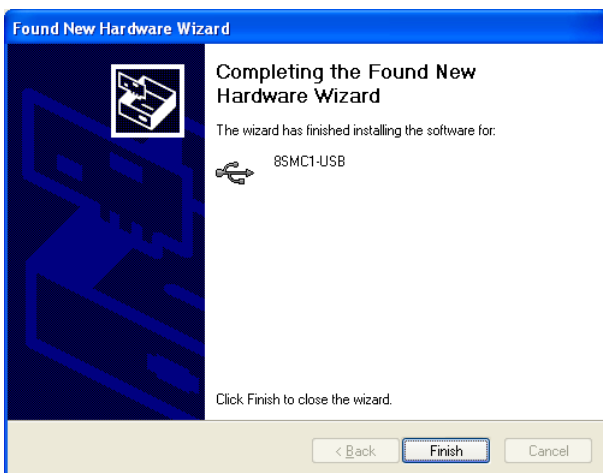

Figure 9. Hardware wizard last screen
- o Choose (see Figure 7) Install the software automatically (Recommended) and press the "Next>" button. Wait until installation is completed and press "Finish" button (see Figure 9).